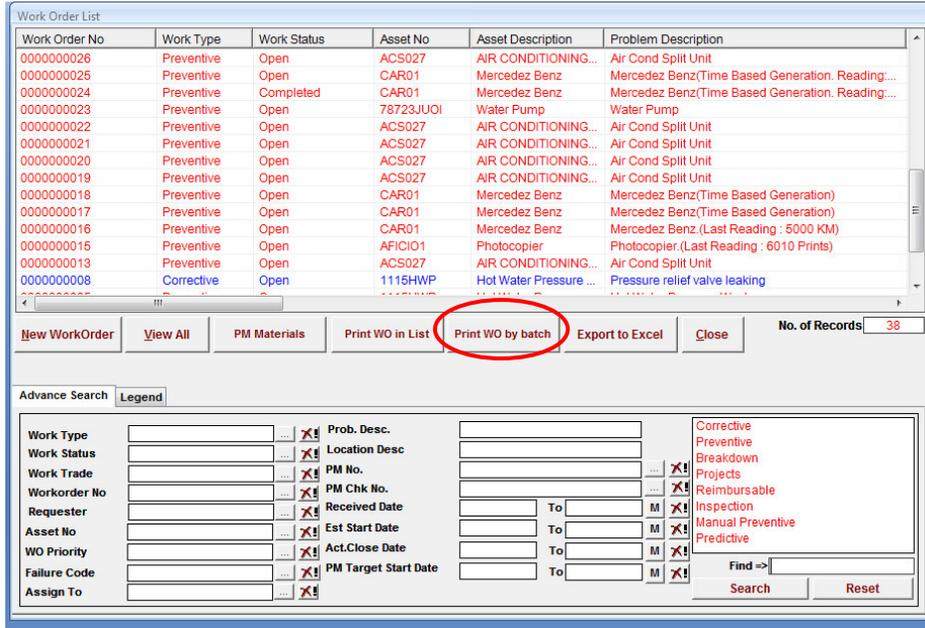

Figure 35: Printing Work Order By Batch
2. Print work order by batch. (Refer to Figure 35)